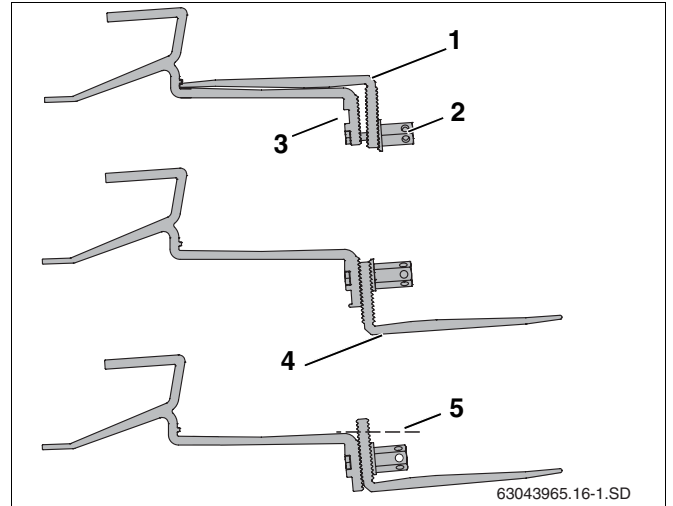

Fig. 13 Fastening roof hooks to joists
With some roof coverings it may be necessary to underlay the lower part of the roof hook (Fig. 13, **Item 4**) with boards so that the upper part of the roof hook lies on top of the tile.
- ▶ Loosen the long hexagon nut (Fig. 13, **Item 2**).
- ▶ Insert bolt into upper hole (Fig. 13, **Item 3**).
- ▶ Loosely fasten lower part of roof hook (Fig. 13, **Item 1**). Do not tighten the connection yet.